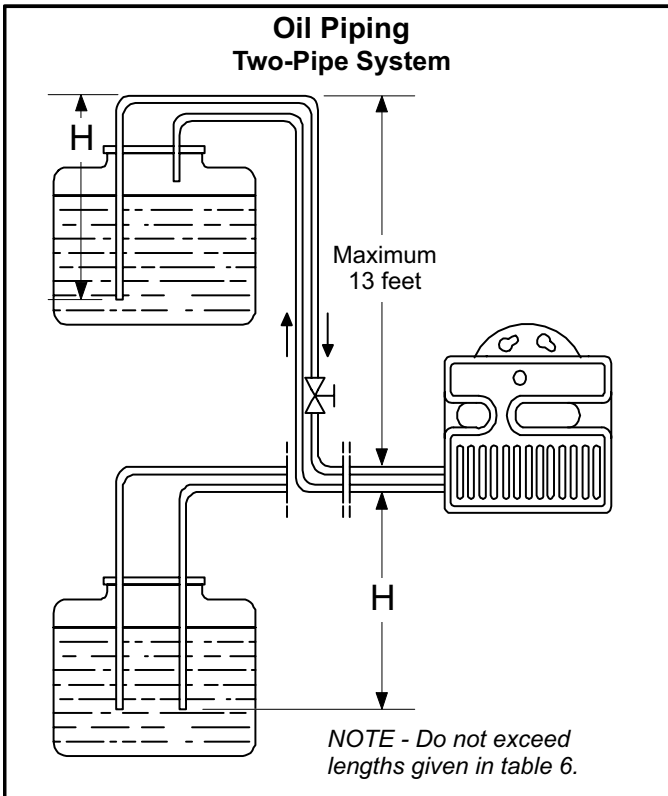

Figure 19
- 3 - Use table 6 and figure 19 to properly size the supply and return line piping.